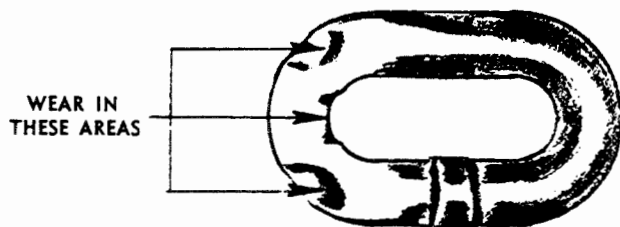

FIGURE 4-1 TYPICAL WEAR ON LINKS
- b. Inspect each link for wear to the diameter of the link (see Figure 4-1). The nominal link diameter is .281 inch for the chain on model CB-1 and .375 inch for models CB1 1/2, 2, 4, 5, 6 and 8. Models CB-3, 10 and 12 have nominal link diameter of .437 inch. If the diameter of any link of